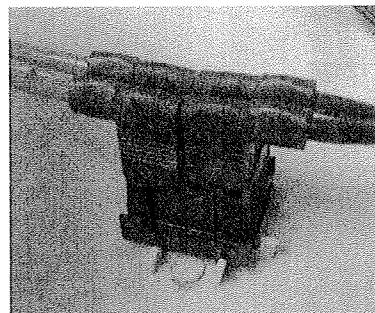

Figure 12: Proper Orientation of Foot Switch
20. Re-install the pushbutton switch into the underside of the base cover and secure it using the electrical switch nut. See Figure 9. Ensure proper orientation of the bottom of the switch into the tabs as shown in Figure 12.